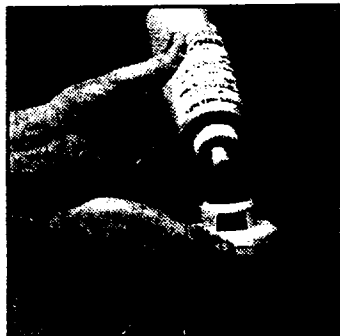

Fig. E.4
- d. Prepare the THM by placing approximately 1 teaspoon (5 ml) of coupling gel (about the size of a Hershey Kiss®) on the round flat black surface on the THM transducer. **Do not spread the gel on the transducer surface.** The system is designed so that the gel is spread evenly when the transducer contacts the skin (Fig. E.4).